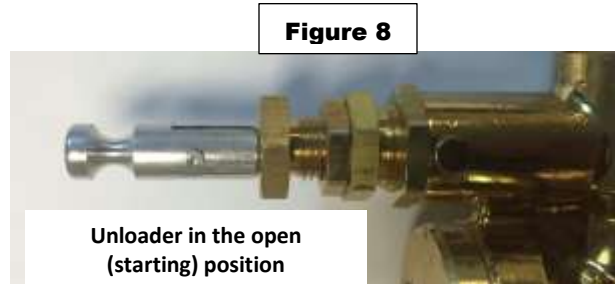

Figure 8
- Open the unloader as shown in figure 8.
- RELEASE ALL PRESSURE FROM THE SYSTEM BEFORE ATTEMPTING TO PERFORM ANY MAINTENANCE. SEE FIGURE 8 ABOVE.